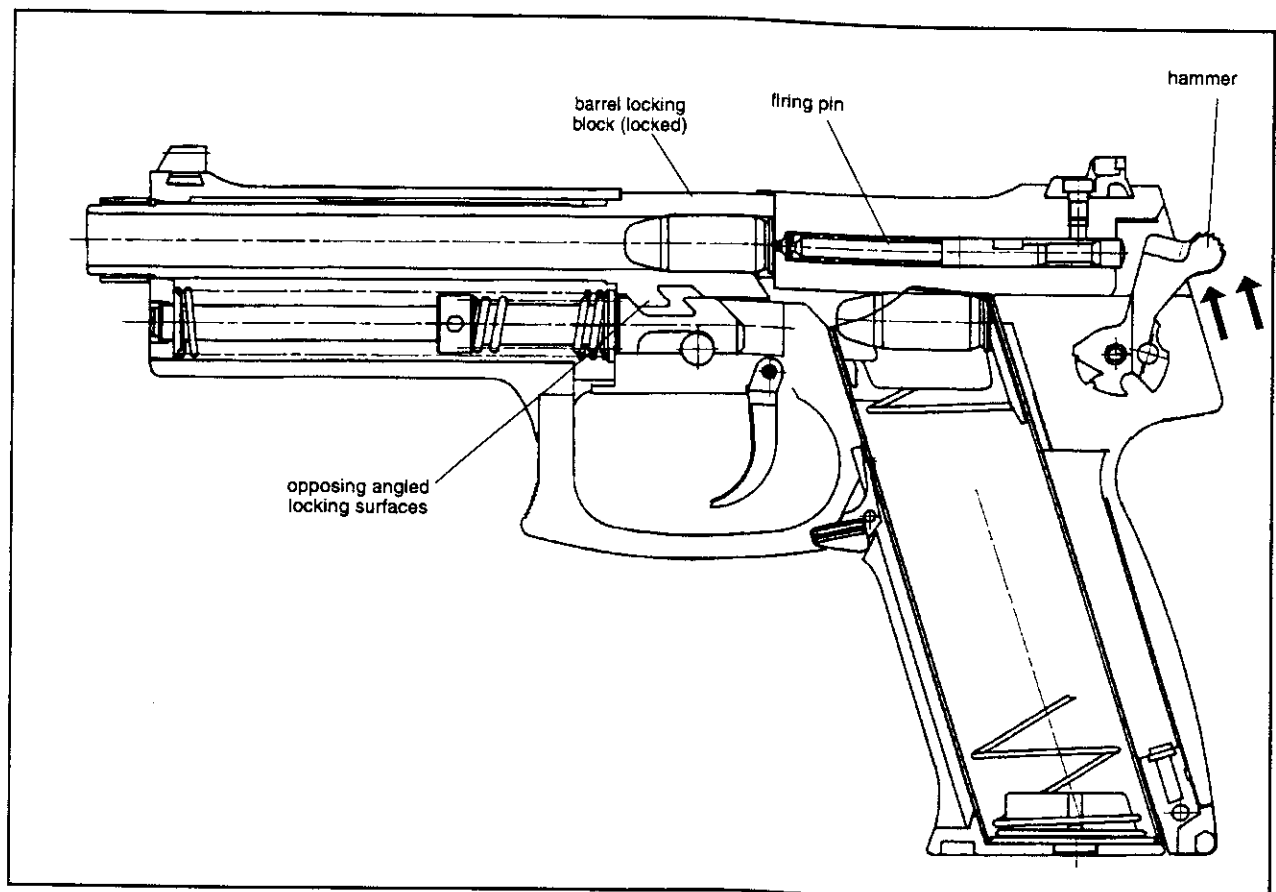

Figure 5 Firing
- A. **Firing** - (See Figure 5) Pulling the trigger rearward pulls the trigger bar forward. The trigger bar pivots the sear actuator upwards which disengages the firing pin block. At the same moment, the sear is pivoted out of engagement from the lower of the two shelves located on the hammer. The compressed hammer spring drives the hammer forward into the rear end of the firing pin. The firing pin strikes the primer of the chambered round. The propellant is ignited by the primer and propellant gases are created inside the cartridge case. The propellant gases drive the projectile down the polygonal bore which spins the projectile in a clockwise direction as a means to stabilize the projectile's flight.
H. Locking - (See Figure 5) -The slide presses the barrel forward. As it does, the opposing angled surfaces of the barrel locking block and recoil spring guide rod pivot the rear end of the barrel up into engagement with the ejection port in the slide. The slide is now fully forward and the new round is ready to be fired.